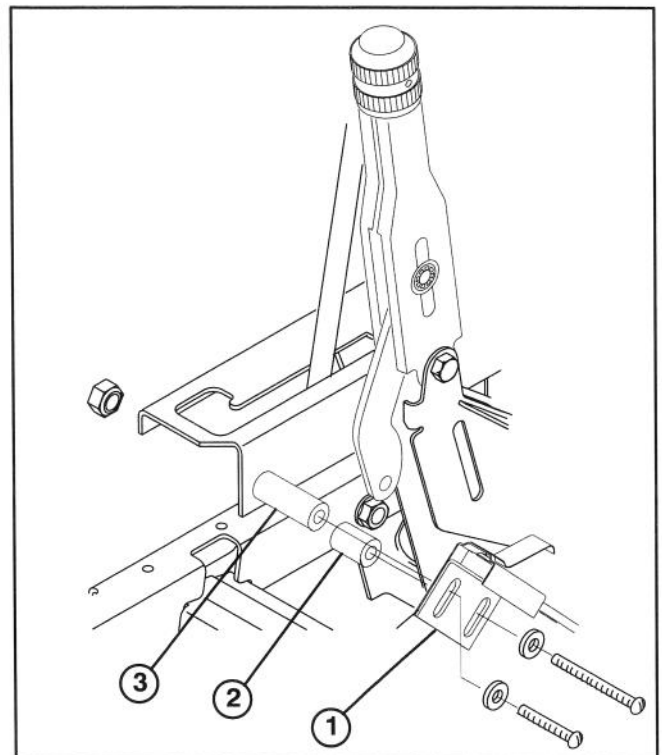

Figure 4
15. Loosely mount parking brake switch to vehicle console with (2) spacers, #10-24 screws, washers and nuts, as shown in figure 4. Different length spacers and screws are used to mount switch level.